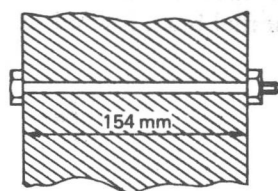

Fig. 1.6
9) The bolt shown in Fig. 1.6 has a diameter of 8 mm and a metric fine thread of 1 mm pitch. If the nut is originally tight, and neglecting any compression in the material through which the bolt passes, find the increase in the stress in the bolt due to a tightening of the nut by rotating it one eighth of a turn. Take  $E$  as  $200 \text{ GN/m}^2$ .